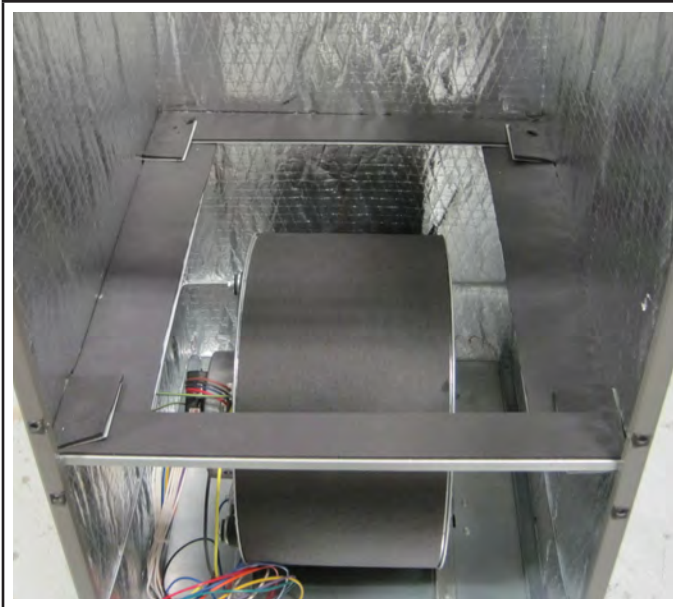

FIGURE 15. Air Seals Properly Installed
- 3 - Position the shaped air seals onto the downflow coil support brackets, ensuring that the seals seat against the sides and back of the air handler cabinet and that a seal will occur when the access panel is reinstalled (see figure 15).